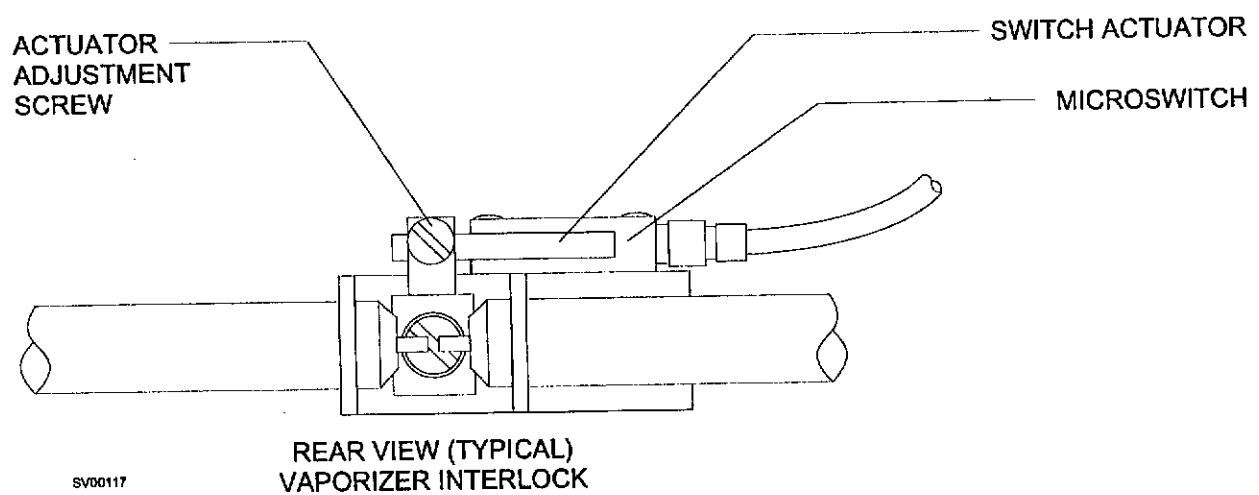

Figure 5-7: VAPORIZER SELECT SWITCH ADJUSTMENT
5.7.3 Turn the nylon actuator adjustment screw (see Figure 5-7) counter-clockwise several turns, or until it is no longer pushing the microswitch actuator.